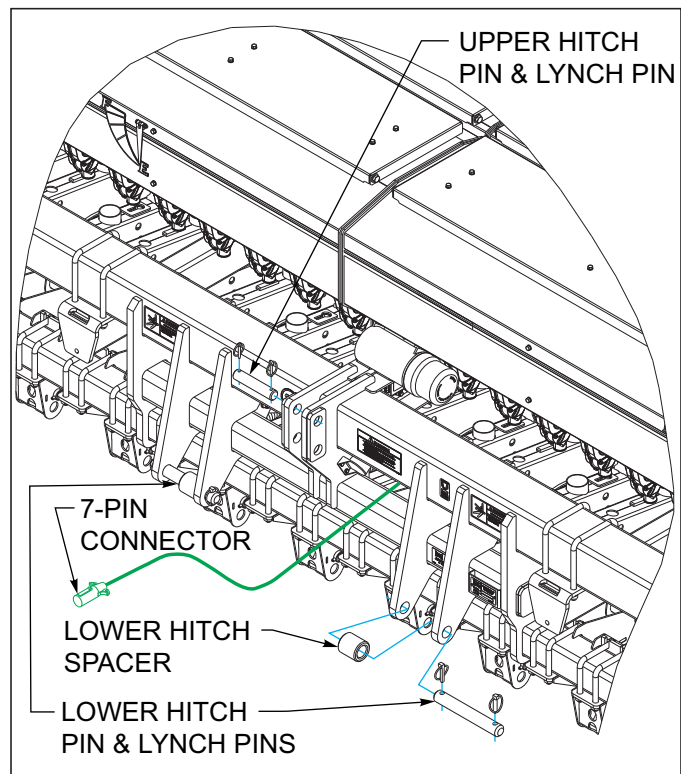

Figure 4-1: Attaching Drill to Tractor
3. Install the lower hitch pins and spacers See Figure 4-1.
6. Plug the safety lights into the seven pin connector on the tractor See Figure 4-1.